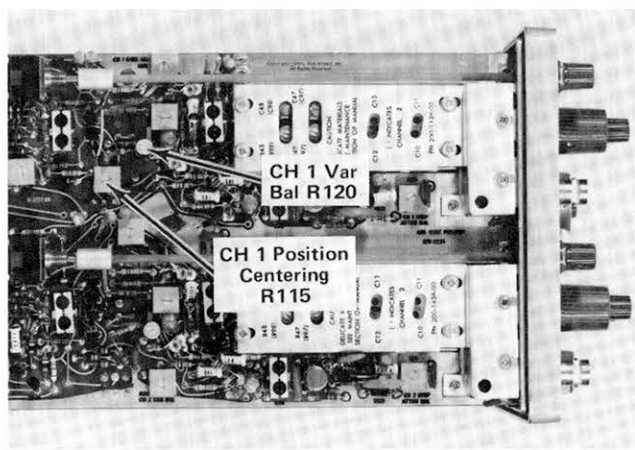

Fig. 5-11. Location of CH 1 Variable Balance and Position Centering adjustment.
d. ADJUST—CH 1 Variable Balance adjustment, R120, (see Fig. 5-11) for minimum trace shift when rotating the CH 1 VAR control through its range.
- d. ADJUST—CH 1 Position Centering adjustment, R115, (see Fig. 5-11) so that the top of the CRT display can be positioned down to 1/2-division above the center horizontal graticule line, and the bottom of the display can be positioned up to 1/2-division below the center horizontal graticule line.